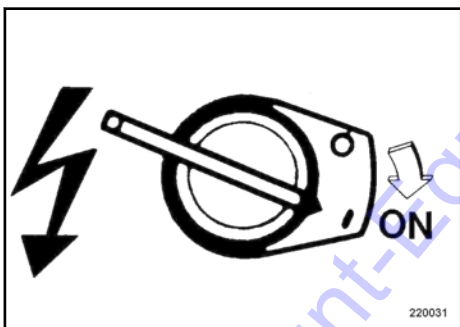

Fig. 20
Turn the ignition switch ↵ Fig. 20 to position "I" (ON).